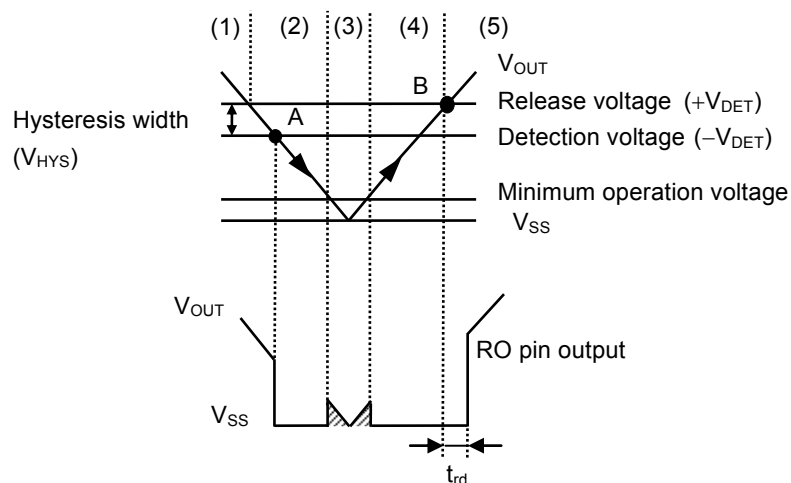

Figure 41 Timing Chart of Detector Block
- (1) When the output voltage (V_{OUT}) of the regulator is release voltage ($+V_{DET}$) of the detector or higher, the Nch transistor (N1 and N2) are turned off and "H" is output to the RO pin. Since the Pch transistor (P1) is turned on, the input voltage to the comparator (C1) is $\frac{R_B \cdot V_{OUT}}{R_A + R_B}$.
- (2) Even if V_{OUT} decreases to $+V_{DET}$ or lower, "H" is output to the RO pin when V_{OUT} is the detection voltage ($-V_{DET}$) or higher. When V_{OUT} decreases to $-V_{DET}$ (point A in **Figure 41**) or lower, N1 which is controlled by C1 is turned on, and C_{DLY} is discharged. If the DLY pin voltage (V_{DLY}) decreases to the lower reset timing threshold voltage (V_{DRL}) or lower, N2 of output stage of C2 is turned on, and then "L" is output to the RO pin. At this time, P1 is turned off, and the input voltage to C1 is $\frac{R_B \cdot V_{OUT}}{R_A + R_B + R_C}$.
- (3) If V_{OUT} further decreases to the IC's minimum operation voltage or lower, the RO pin output is "H".
- (4) When V_{OUT} increases to the IC's minimum operation voltage or higher, "L" is output to the RO pin. Moreover, even if V_{OUT} exceeds $-V_{DET}$, the output is "L" when V_{OUT} is lower than $+V_{DET}$.
- (5) When V_{OUT} increases to $+V_{DET}$ (point B in **Figure 41**) or higher, N1 is turned off and C_{DLY} is charged. N2 is turned off if V_{DLY} increases to the upper timing threshold voltage (V_{DU}) or higher, and "H" is output to the RO pin.